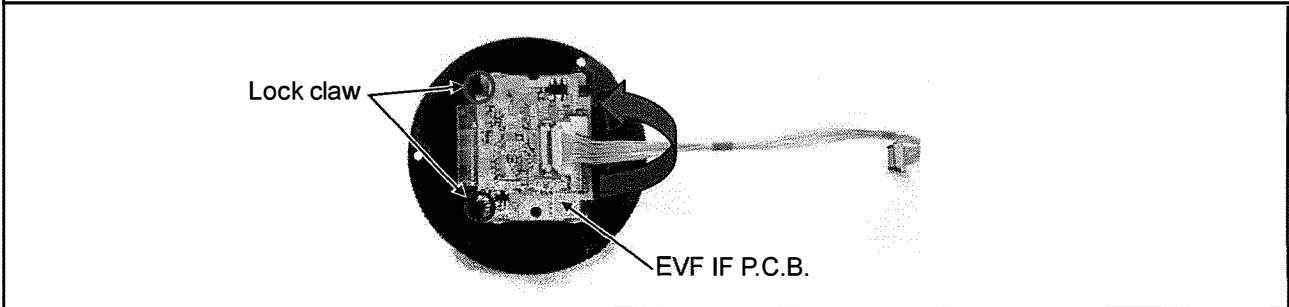

Figure 12-5
10. Release the 2 lock claws and open the EVF IF P.C.B in the direction of the arrow as shown in figure 12-5.